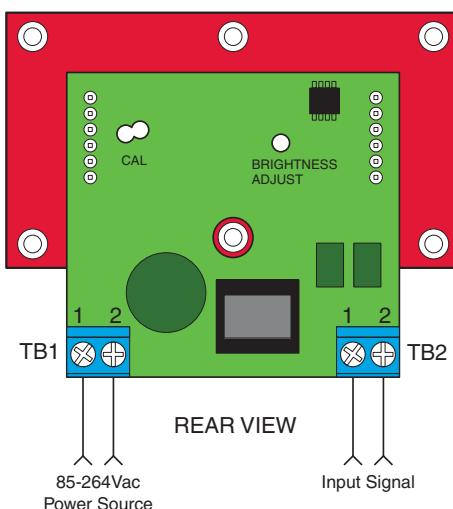

Figure 1. DMU-30DCV wiring diagram
**3. Power Supply Polarity, Fusing, Wiring and Grounding:** The power supply inputs (TB1-1 and TB1-2) on DMU-30DCV voltmeters are not polarity sensitive, that is, they have no "AC LO" or "AC HI" designations. These units do not include or require a connection to earth/chassis ground. Refer to Figure 1 for a typical wiring diagram.